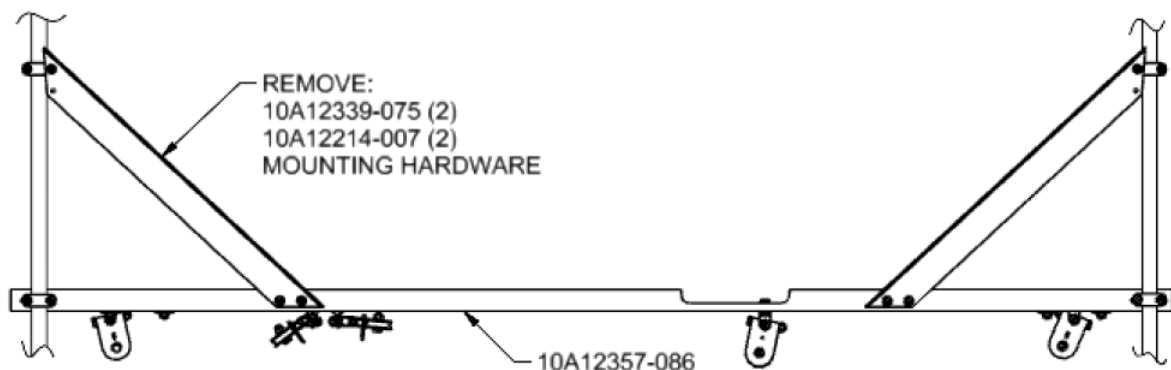

FIGURE 5
- a. Remove the diagonal stiffeners (10A12339-075) located on the fuselage steering support angle (10A12357-086) at fuselage station 67.88. See Figure 5.